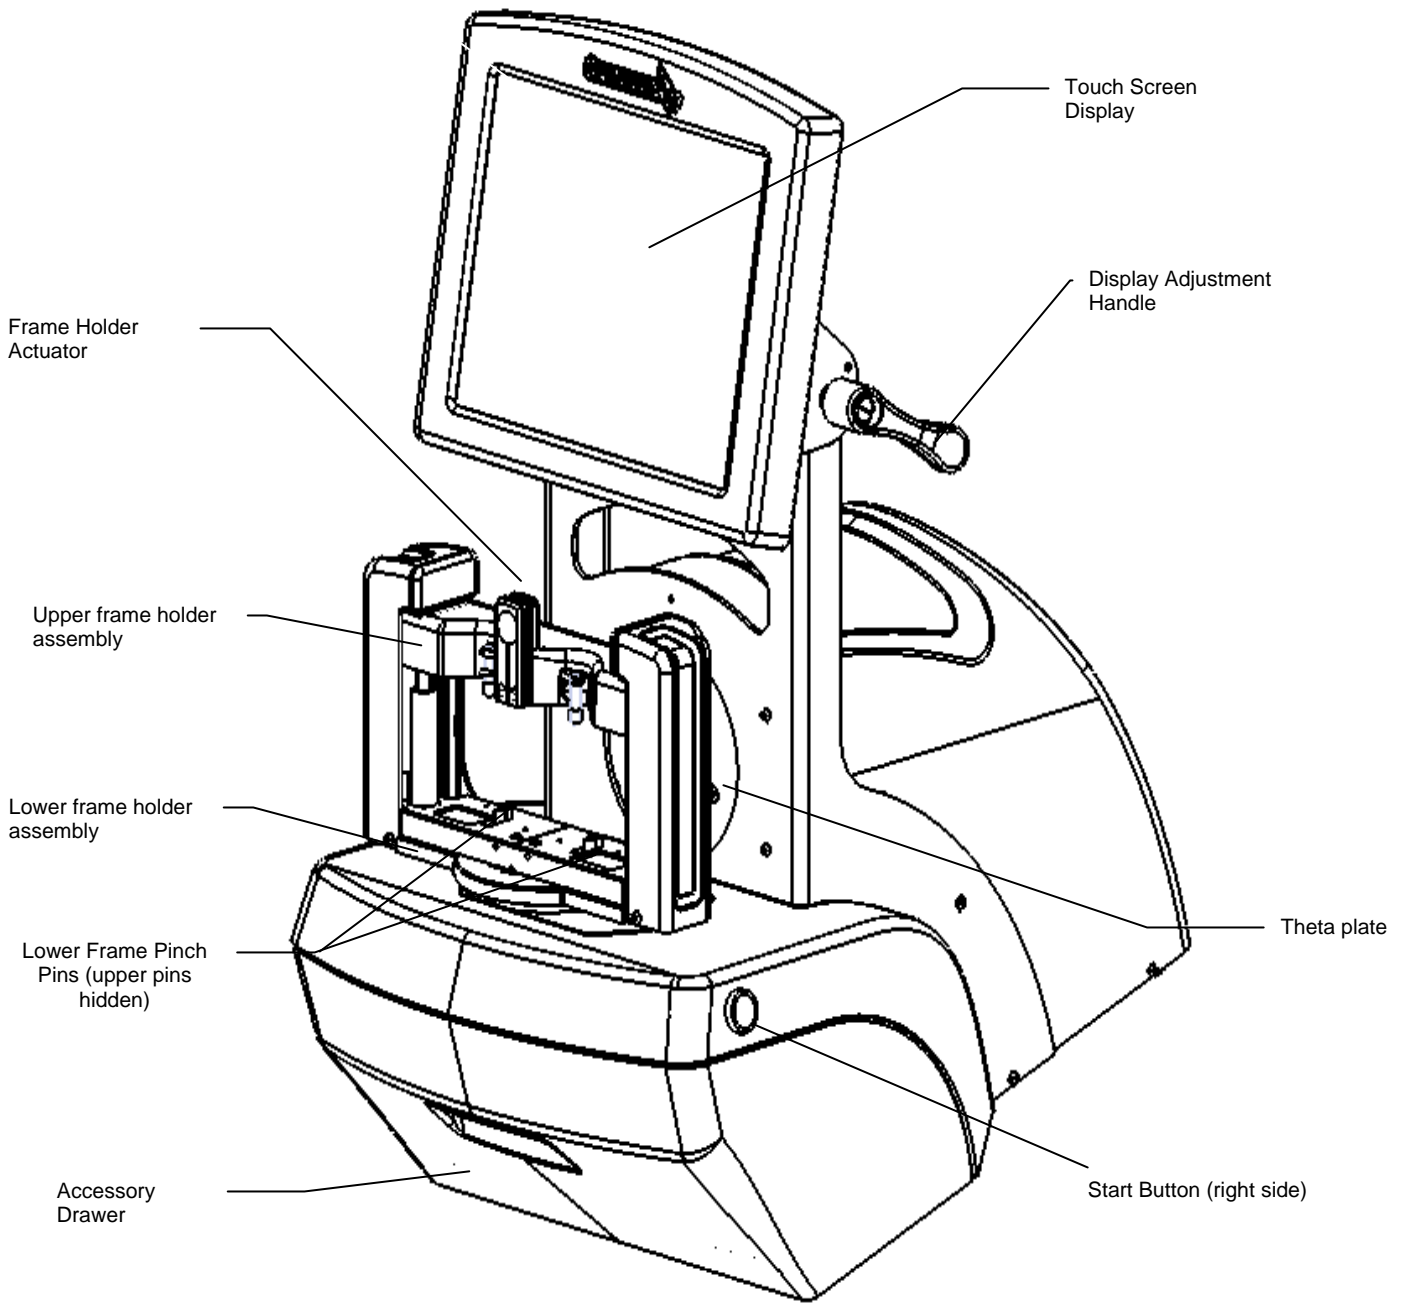
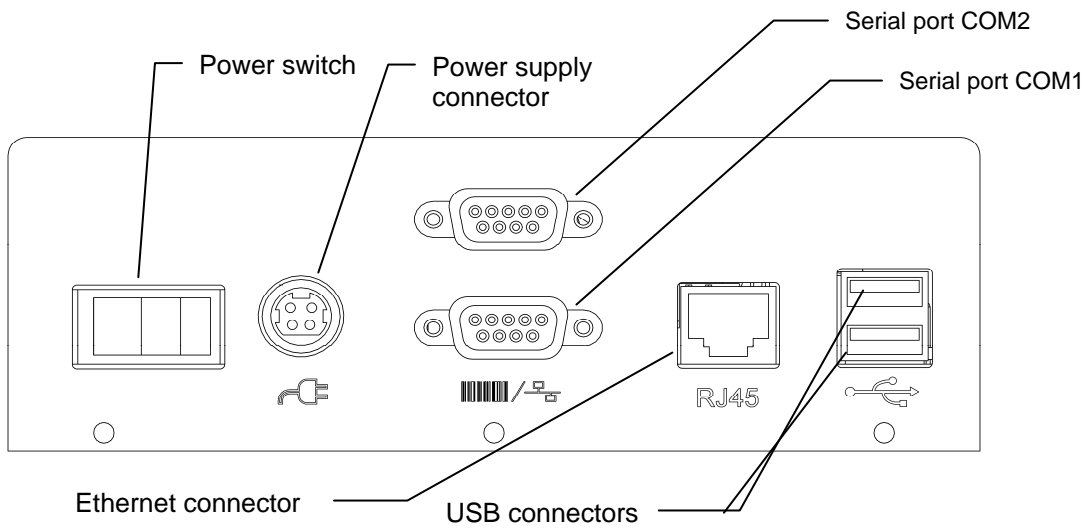
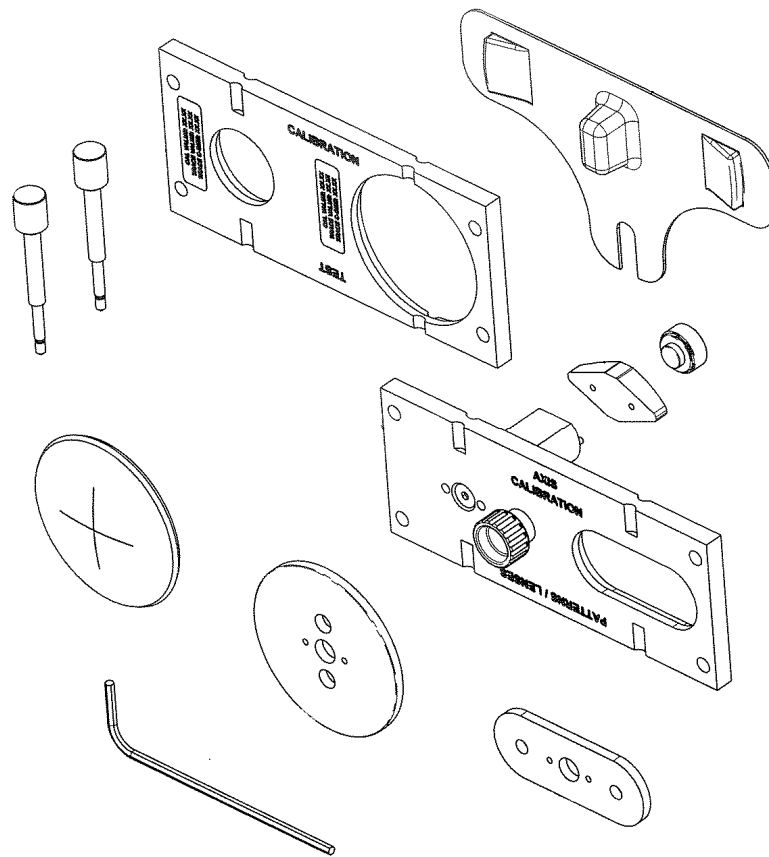

Figure 1.1: Dimension User Items – Front View
Figure 1.2: Dimension Rear Connector Bulkhead
Figure 1.3: Dimension Accessory Items
Even before unpacking the Dimension and setting it up, take a look at the 3 figures on the following pages to learn what the user-accessible components and features of the Dimension are called. Figure 1.1 shows items visible from the front of the unit. Figure 1.2 shows the connector bulkhead on the back of the unit. Figure 1.3 shows the accessories that ship with the Dimension. We'll be using the names shown in these figures throughout this guide.
The Dimension is shipped in molded foam blocks within a cardboard carton. An accessory kit is shipped in a corrugated cardboard insert. The carton and the interior packing pieces should be retained in the event the unit must be shipped again. Place the carton on its side on a work surface. Open the top of the carton and carefully pull the tracer, foam blocks/insert from the carton and place them on the work surface. Pull foam blocks free from the tracer mechanism. Inspect the carton and all foam blocks to be sure none of the accessories shipped with the Dimension remain unpacked. You should have the following items (as shown in Figures 1.1 and 1.3):
4. Plug the power supply module into the power socket on the rear connector bulkhead shown in Figure 1.2. The flat side of the connector should face upwards.
This chapter describes how to mount frames, patterns and lenses for tracing. Refer back to Figure 1.1 and note the locations of the upper and lower frame holder assemblies, the upper and lower pinch pins, and the frame holder actuator. Refer to Figure 1.3 to identify accessory items. In some of the following pictures, parts of the Dimension case have been removed for greater visibility.